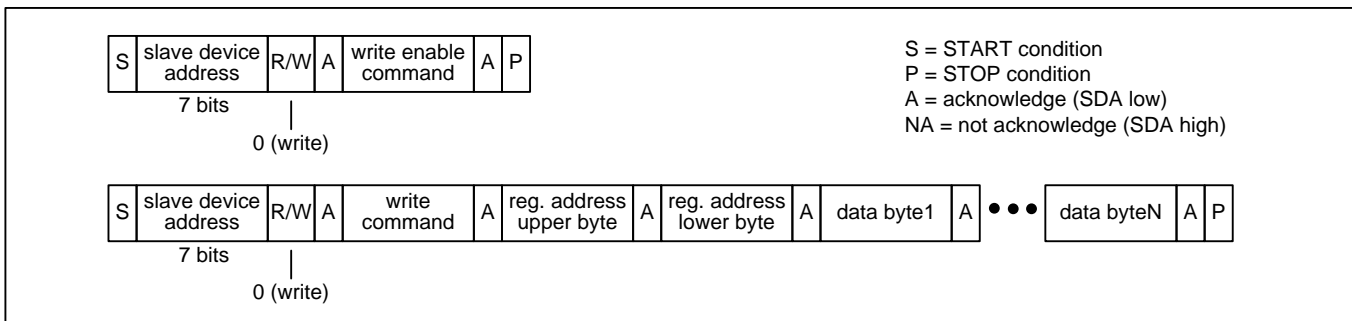

Figure 9 – I2C EEPROM Write Transaction Functional Timing
**EEPROM Writes.** The EEPROM memory is accessible when  $EESEL=1$ . The bus master first does an I2C write to transmit the SPI Write Enable command (see Table 3) to the device. The bus master then does an I2C write to transmit data to the device as described in the Register Write Transactions paragraph above. See Figure 9.